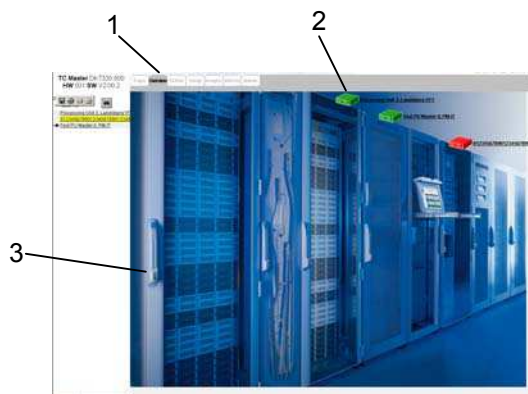

Fig. 39 Logged in Processing Units overview window
- Click in the left-hand frame of the browser window (Figure 39, item 1) on the link of the Processing Unit (this is then marked with an arrow).
- Then click the "Setup" tab (2).